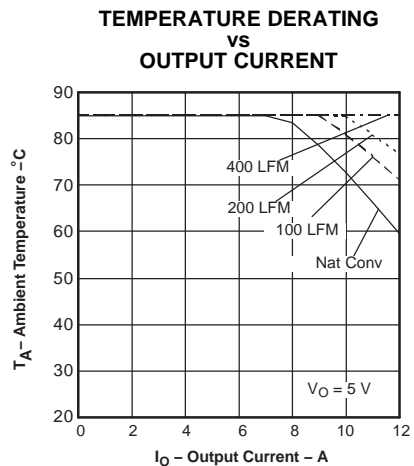
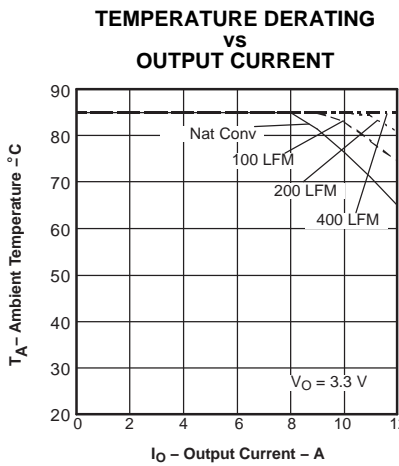

Figure 4.
Figure 5.
- (2) The temperature derating curves represent the conditions at which internal components are at or below the manufacturer's maximum operating temperatures. Derating limits apply to modules soldered directly to a 4 inch × 4 inch double-sided PCB with 2 oz. copper. For surface mount packages (AS and AZ suffix), multiple vias (plated through holes) are required to add thermal paths around the power pins. Please refer to the mechanical specification for more information. Applies to Figure 4, Figure 5, and Figure 6.